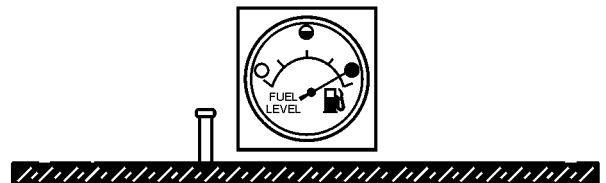

Figure 31. Full Fuel Tank
- NEVER overfill fuel tank** — It is important to read the fuel gauge when filling trailer fuel tank. **DO NOT** wait for fuel to rise in filler neck (Figure 31).